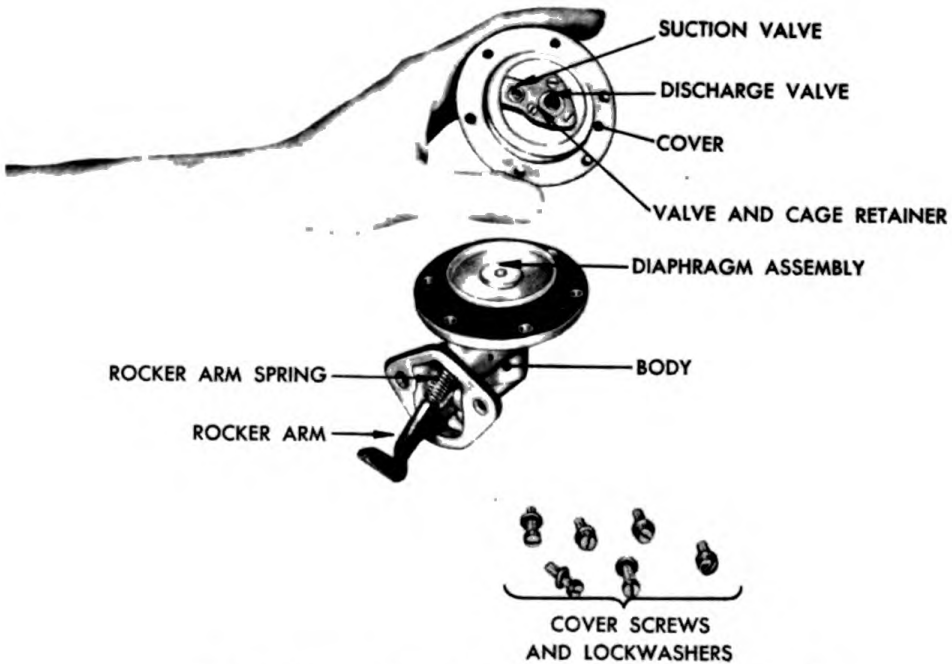

Figure 297. Separating Fuel Pump Body from Cover.
- d. Remove top cover screws and washers and separate top cover from body by jarring loose with screwdriver handle. (CAUTION: Do not attempt to pry the body and cover apart as damage may result.) Figure 297.
- k. Install top cover screws and lockwashers loosely until screws just engage lockwashers. Then, push rocker arm in full stroke and hold in this position while tightening screws or pump will deliver too much pressure. See figure 297.